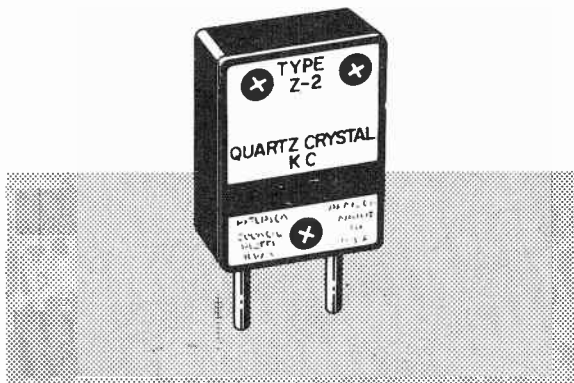

Fig. 6-3. A typical crystal holder.
6-7. This, then, gives you some idea of what the crystal or rock is that is mentioned so frequently in amateur literature. To anyone with the least smattering of mechanical knowledge, it is obvious that such a quartz plate cannot be connected into a circuit by merely soldering wires to the two surfaces. You don't solder to a rock! Light, but firm, electrical contact with the two plane surfaces of the crystal is a must, though. This is achieved through a small device known as a crystal holder (Fig. 6-3). Ordinarily, your crystal comes factory-sealed in such a holder. Two prongs (like the ones on vacuum tubes) permit the crystal to be plugged into a suitable socket. A disassembled crystal holder is shown in Fig. 6-4. The holder is a small enclosure, generally of *Bakelite* and somewhat larger than the crystal. The crystal itself (A) is sandwiched between the two contact plates (B and B1). The sandwich is placed in the holder cavity, with the spring (C) on top, followed by the retainer plate (D) and the cover plate (E). The entire assembly is held rigidly in place by the screws (F).